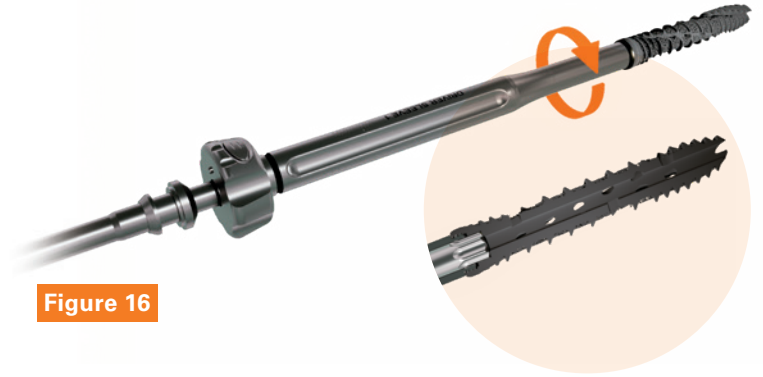

Figure 16
- ▶ Thread Driver Sleeve 1 into the head of the Implant (**Fig. 16**).